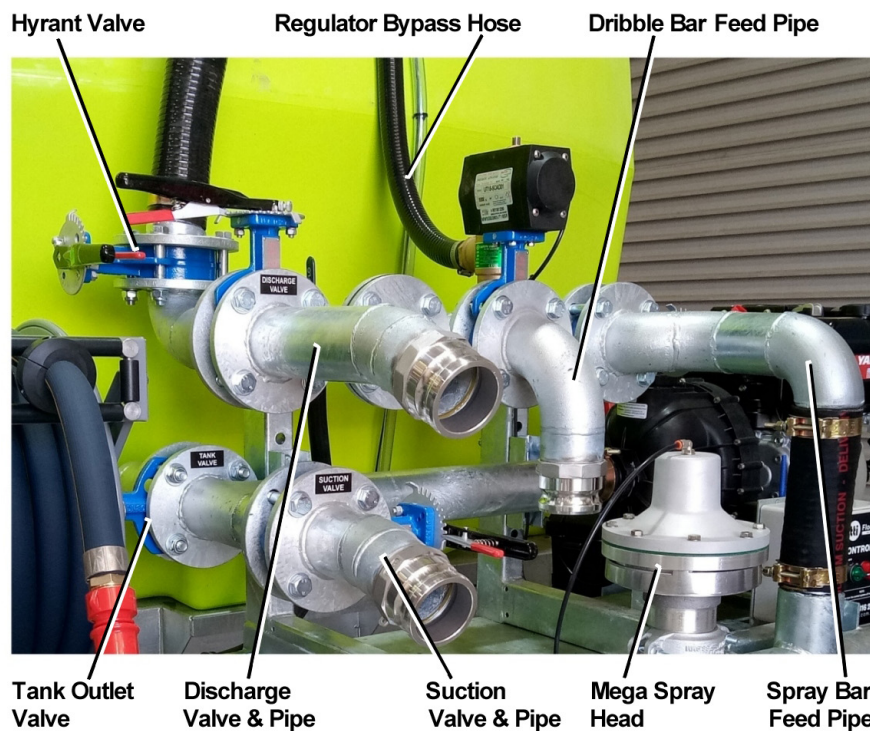

Figure 8 – Pipework Configuration
The FloodRite tank is filled from a hydrant as follows, referring to Figure 7 and Figure 8:
2. Attach the hydrant supply hose to the discharge pipe, refer to Figure 8.
The FloodRite tank is filled by drawing water using the FloodRite's pump as follows, referring to Figure 7 and Figure 8:
The FloodRite tank is filled by gravity from an overhead standpipe as follows, referring to Figure 7 and Figure 8: